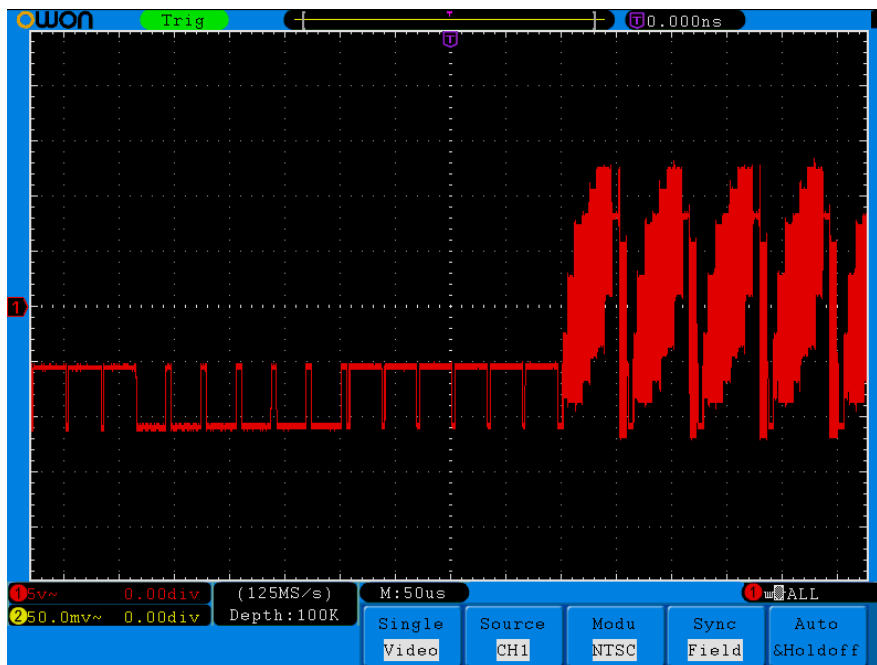

Fig.6-7 Waveform Captured from Video Field Trigger
- (1) Press the **Trigger Menu** button to display the trigger menu.
- (2) Press the **H1** button to display the trigger type menu.
- (3) Turn the **M** knob to choose **Video** as the mode.
- (4) Press the **H2** button to display the Source menu.
- (5) Press the **F1** button to choose **CH1** for Source.
- (6) Press the **H3** button to display the Modu menu.
- (7) Press the **F1** button to choose **NTSC** for the modulation.
- (8) Press the **H4** button to display the sync menu.
- (9) Press the **F2** button to choose **Field** for Sync.
- (10) Turn the **VOLTS/DIV**, **VERTICAL POSITION** and **SEC/DIV** knobs to obtain a proper waveform display (see Fig.6-7).